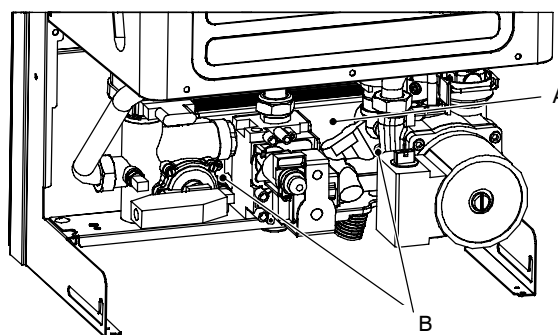

Fig. 16
The d.h.w. heat exchanger *A* in Fig. 14 and Fig. 16 allows the instantaneous transfer of heat from the primary hydraulic circuit to the water destined for d.h.w. use.
- 3 Completely unscrew the two Allen key screws *B* (Fig. 16) which hold the exchanger to the brass groups.